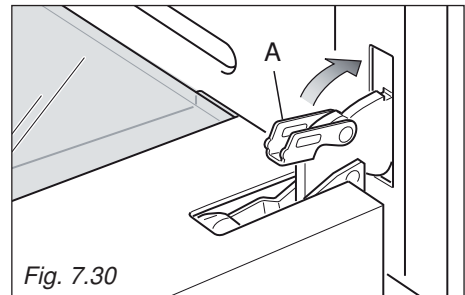

Fig. 7.30
4. Unlock the oven door by opening it completely and closing the lever "A" on the left and right hinges (fig. 7.30).